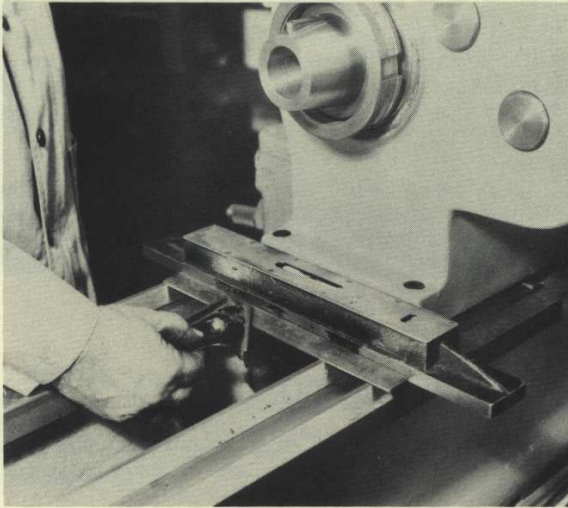

Figure 4. Leveling the Headstock End
1. Place the level across surface of vee ways at right angle to length of bed at headstock end (Figure 4). Bring the level to zero reading or as close as practicable by adjustment of the leveling screws.